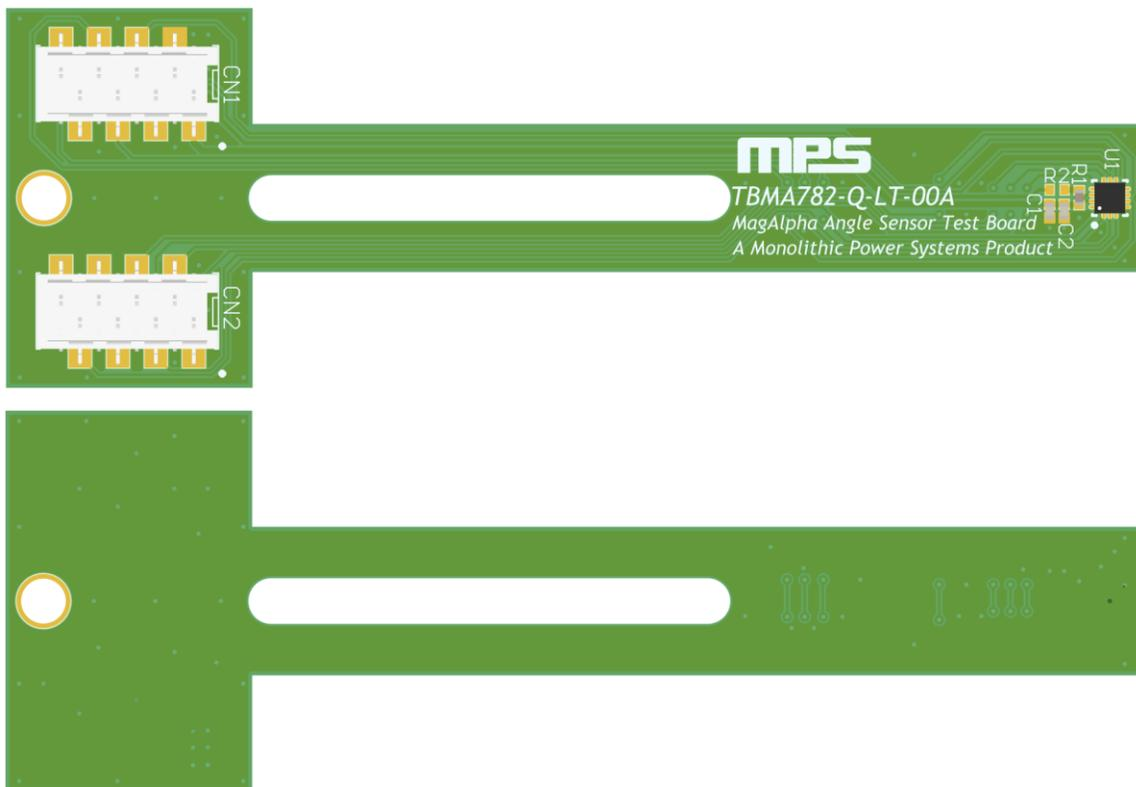

Figure 31: LT Board Overview Type 4
Figure 31 shows an overview of the Type 4 long (LT) board type.